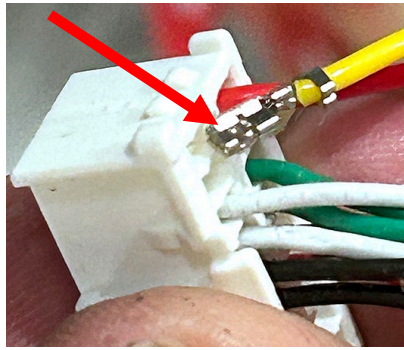

Figure 6
9. With the flags **towards the outside** of the connector, insert the red and yellow probe wires into the same pin locations of the new connector (see Figures 6 & 7).